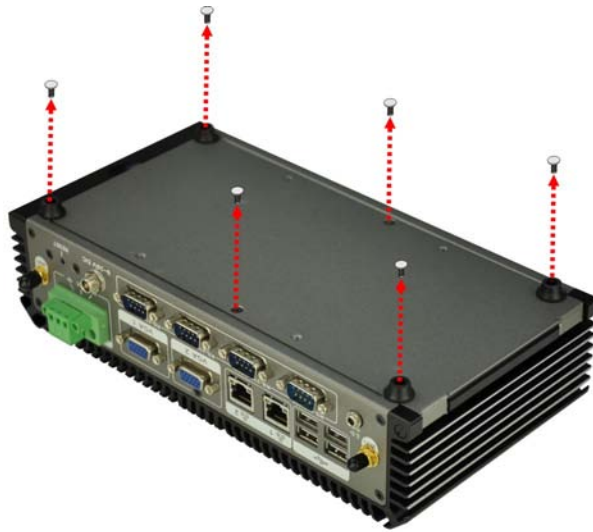

Figure 3-1: Retention Screws Removal
Step 1: Remove six retention screws from the bottom panel (Figure 3-1).